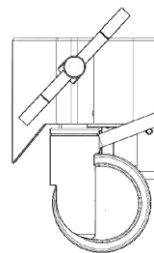

Figure 13
- 1) Prevents movement of the shower trolley during installation or when the patient is getting off. See Figure 13 brake pedal in the blocked position.